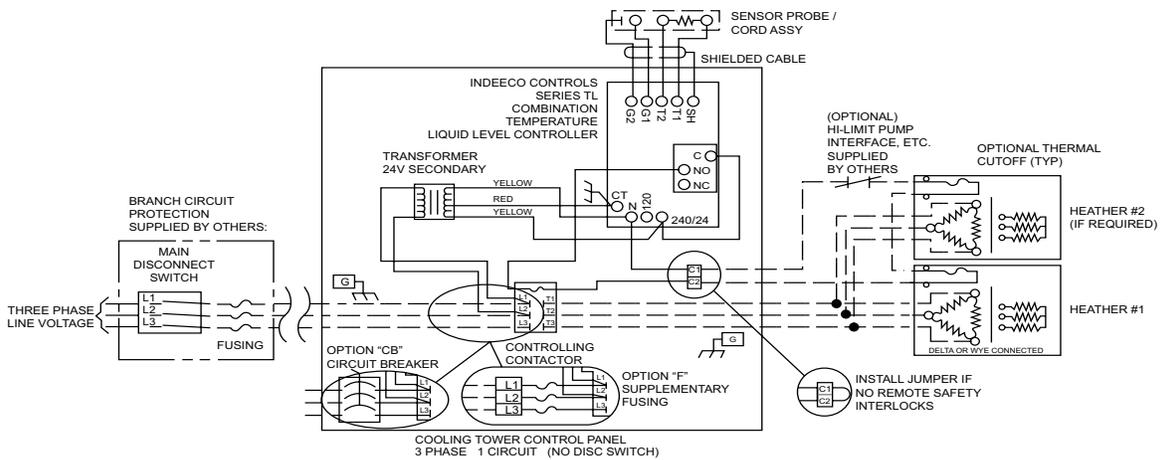

Figure A-57: Basin heater control panel diagram
- Using suitable wire connect heater to panel on “T” terminals, located on right side of contactor in panel (See Figure A-57).
- Using suitable wire from an overload protected disconnect device, connect to the “L” (line) terminals of the panel contactor, located on the left side of contactor in panel (see Figure A-57).